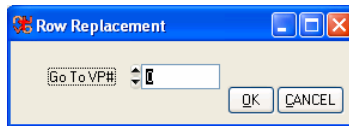

Figure 2-7 Re-order the VPs
- Select the VP by clicking the square (I).
- Press M on the keyboard and a pop-up box shows up as the Figure 2-7.